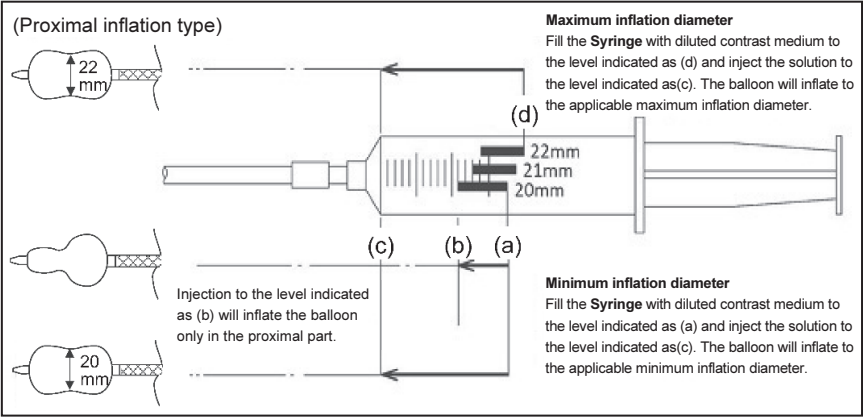

Figure 6
- D. Fill the **Syringe** with diluted contrast medium to the predetermined level in the scale (the proximal end of the red indicator bar representing the minimum inflation diameter) (**See Figure 6**).
- Repeat the above procedure to inflate the balloon with the predetermined dose for the applicable maximum inflation diameter (indicated as (d)). Close the stopcock and measure the balloon diameter with the caliper to see if the balloon diameter matches the applicable maximum inflation diameter. Meanwhile, check the dose required to inflate the balloon only in the proximal part (indicated as (b)) during the course of inflation. Open the stopcock for the injection port and draw the whole volume of diluted contrast medium into the **Syringe** to deflate the balloon. Then close the stopcock for the injection port and remove the **Syringe** from the port (**See Figure 6**).
- G. Inject the diluted contrast medium to inflate the distal half (or proximal half) of the balloon (**See Figure 6**). Slightly pull back the balloon (if distal inflation type) or push forward (if proximal inflation type) to position it in the aortic orifice.